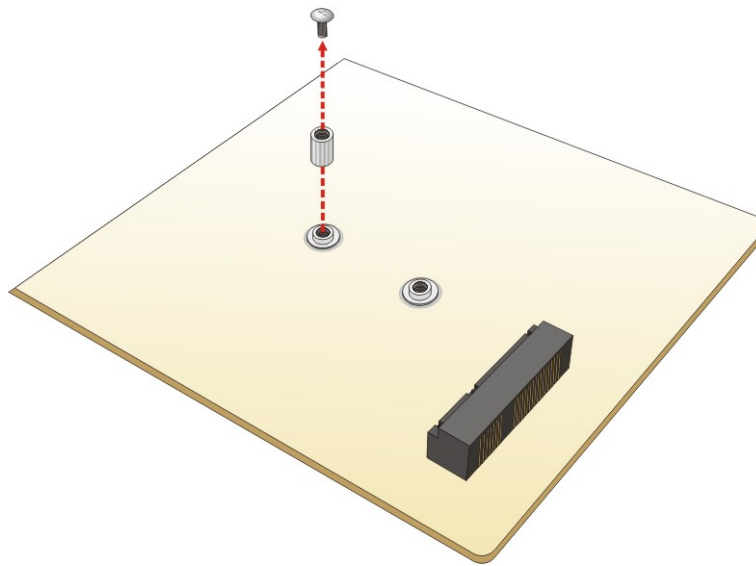

Figure 4-8: Removing Retention Screw and Standoff
Step 2: Remove the retention screw first, then unscrew and remove the standoff secured on the motherboard. See **Figure 4-8**.